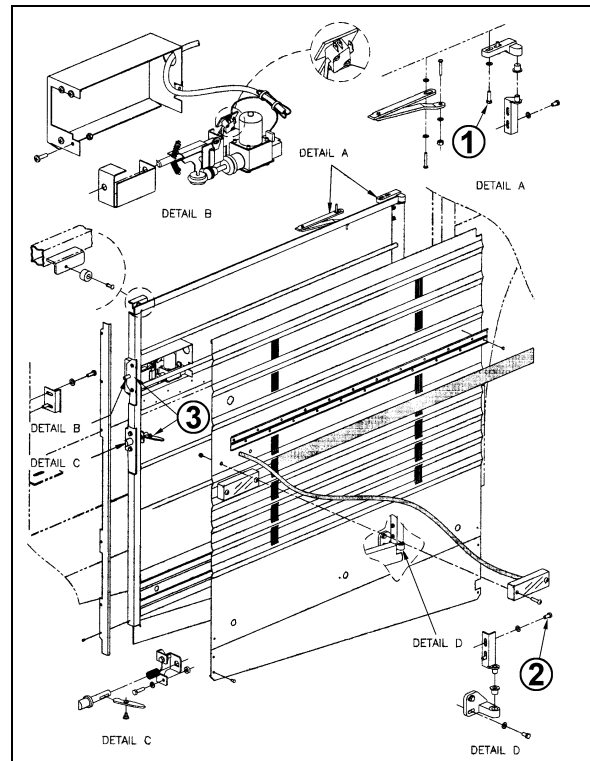

FIGURE 73: ENGINE COMPARTMENT R.H. SIDE DOOR 18635
1. Loosen the bolts, (1, Figure 73) holding the hinge to the vehicle structure to shift the door "IN or OUT" and "UP or DOWN".
2. Loosening the bolts (2, Figure 73) allows the door to be shifted "LEFT or RIGHT" and "UP or DOWN".
To adjust the latch mechanism (3, Figure 73) and the striker pin: